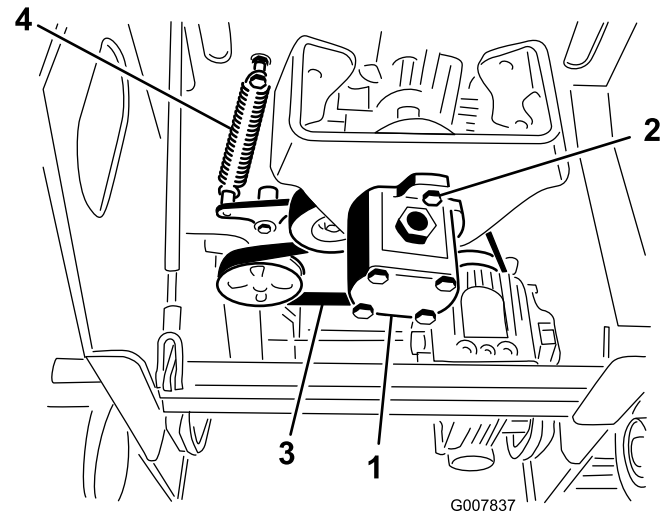

Figure 51
5. Loosen the two pump bolts (Figure 51).
6. Twist the pump counter clockwise and allow it to drop down away from the pulley (Figure 51). Ensure that the spider coupler drops down with the pump.
7. Using a spring puller (contact your Authorized Service Dealer) or stiff metal hook, pull the end of the idler pulley spring off of the spring bolt to release tension on the belt (Figure 51).